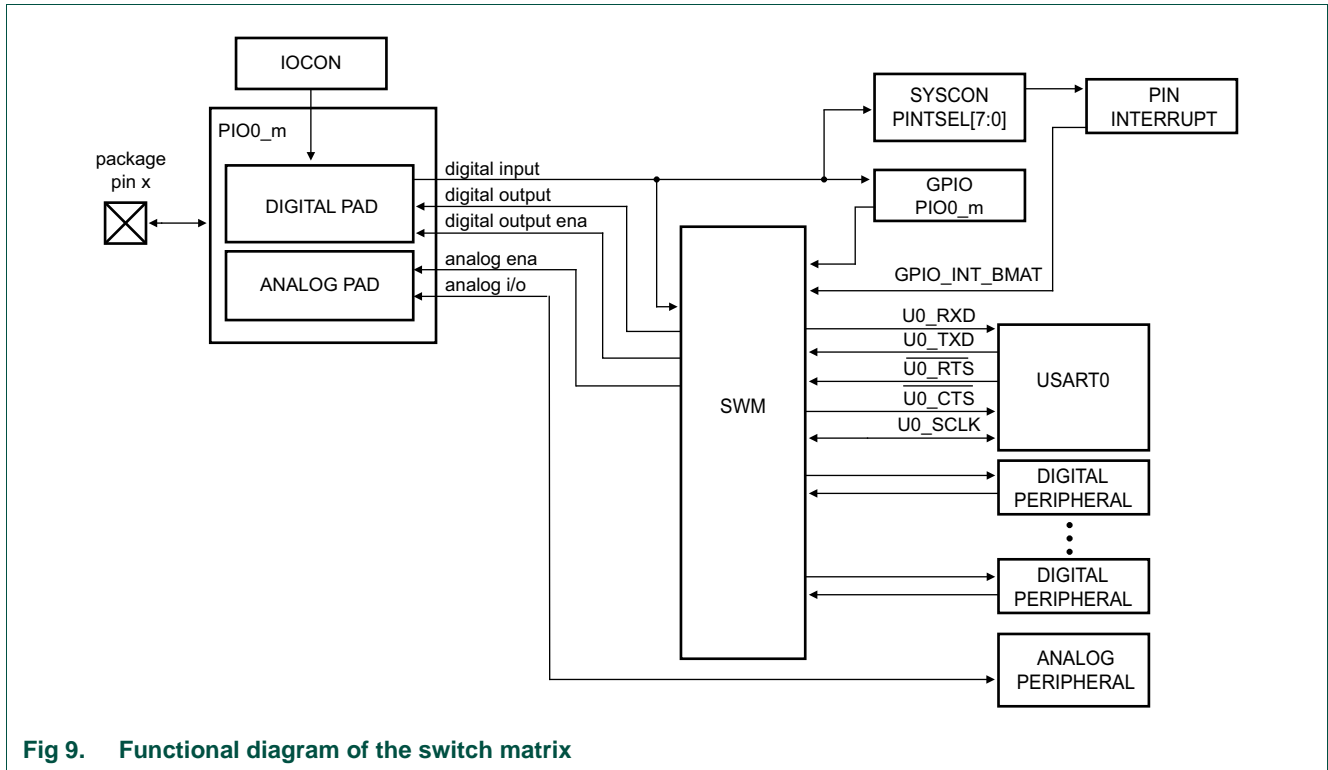

Fig 9. Functional diagram of the switch matrix
**Remark:** From all movable and fixed-pin functions, you can assign multiple functions to the same pin but no more than one output or bidirectional function (see Figure 9). Use the following guidelines when assigning pins: